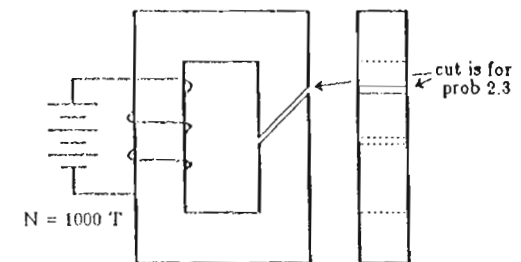

Figure 2.11 Magnetic circuit for Problems 2.1-2.4.
2.1 A coil of 1000 turns is wound on the laminated core of "0.47 mm cold-rolled motor armature steel" shown in Figure 2.11 having a square cross-section of 50 mm on each side (50 mm by 50 mm) and a mean length of 0.5 m. The stacking factor is 0.90. What coil current is required to produce a core flux of  $3 \times 10^{-3}$  Wb? Do not include the air gap in this problem.